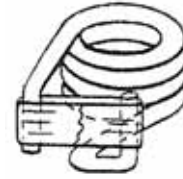

Figure 4a
2. Pre-load spring and bind using filament tape (see Figure 4a)